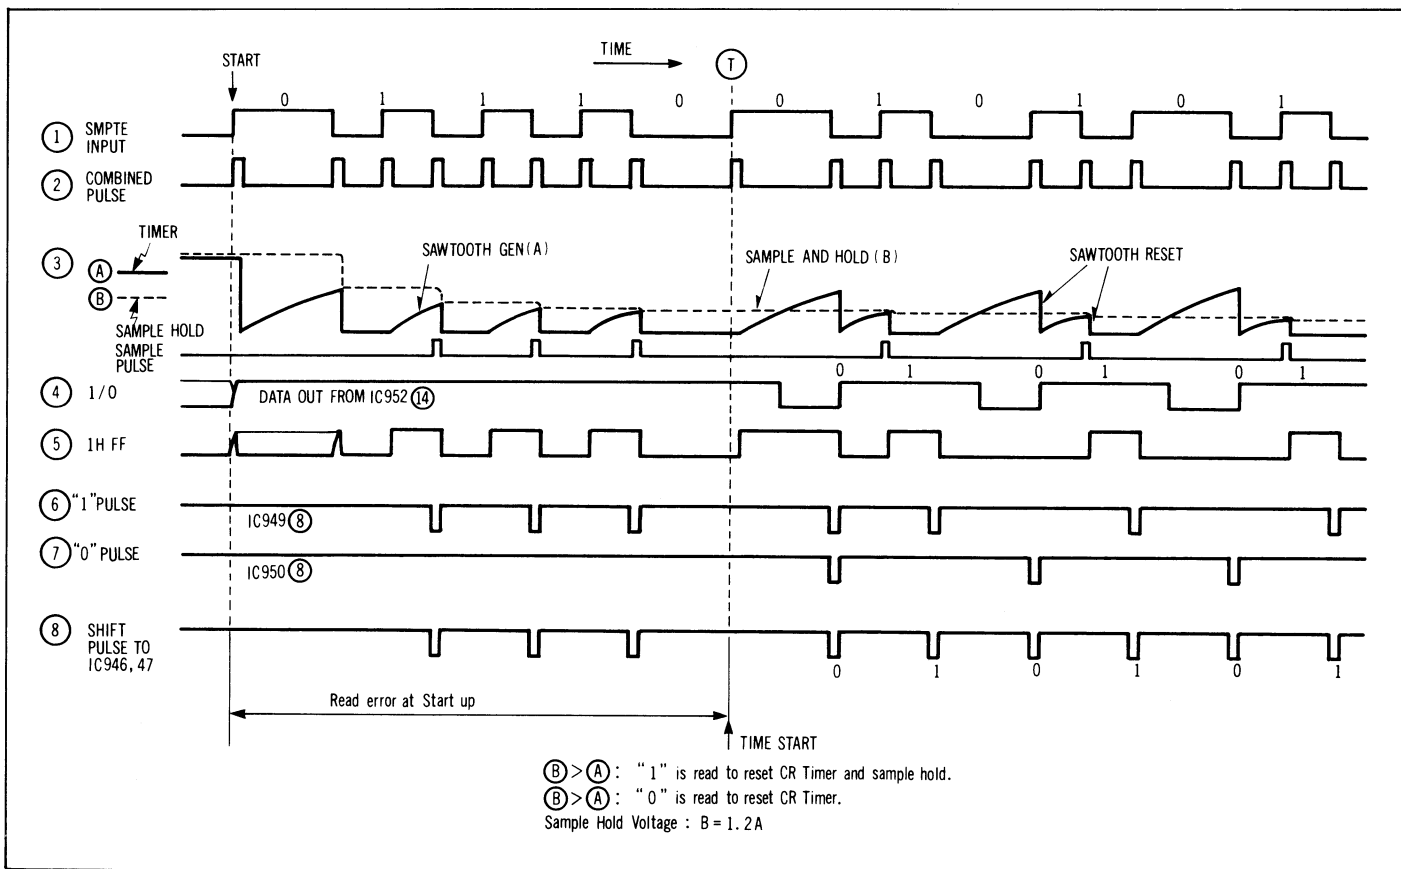
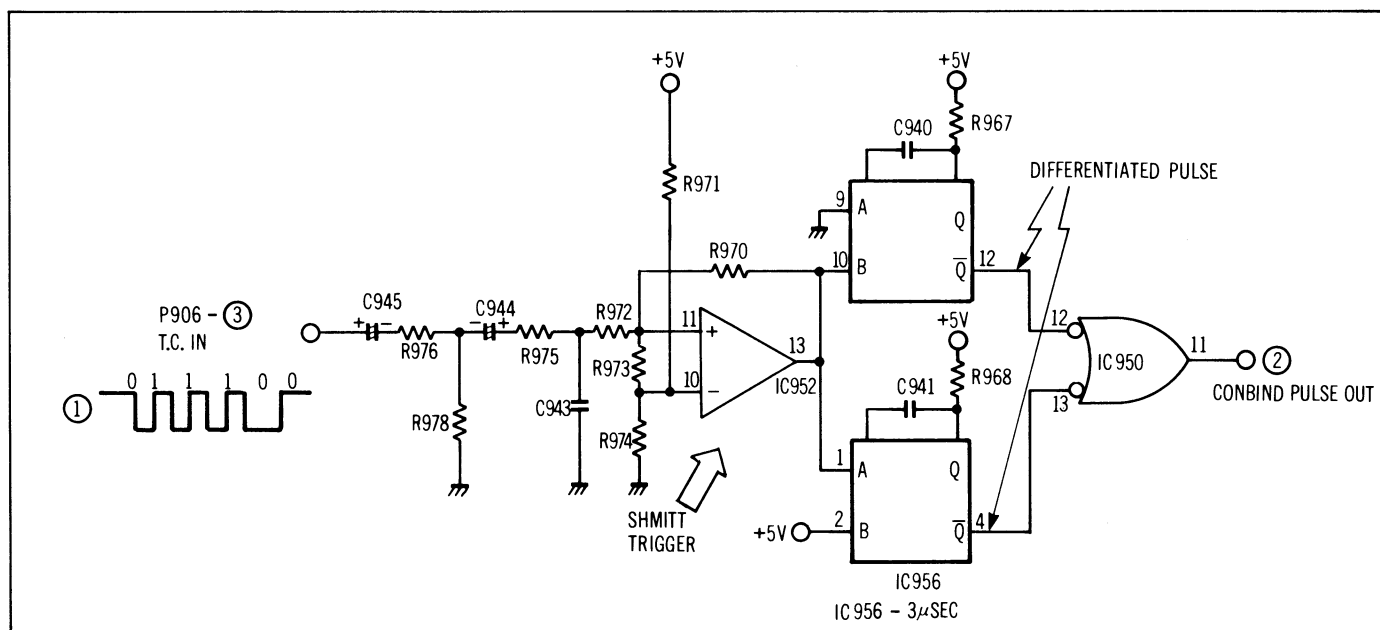

Figure 3-47
Figure 3-54
Because the output of IC952 goes to both the positive trigger (B) and the negative trigger (A) of two MMVs in IC 956, the signal is differentiated at both the rising and falling edges. (See Figure 3-54). Both MMV output pulses are nor gated by IC950 to produce a combined pulse train. See the timing chart Figure 3-47-(1) (2).
When a "0" is detected after a "1" or "0", the process starts to function. Point T in Figure 3-47 indicates the starting point.